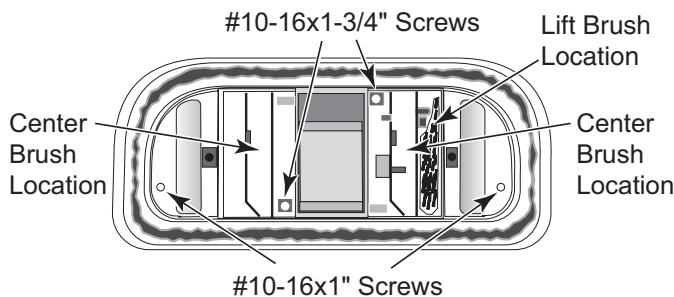

Figure 27 Bottom View of Cleaner
8. Install the lower body assembly in the shroud. Fasten the cleaning head in place with 6 screws (2 long, 2 short – **see Figure 27**).